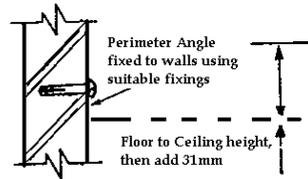

Fig.1
- Fix the perimeter angle to the walls using suitable fixings positioned 300mm apart. (See Fig 1)
- Construct internal and external corners to ensure that Ceiling Tiles lie flat. (See figs 1,2,3)